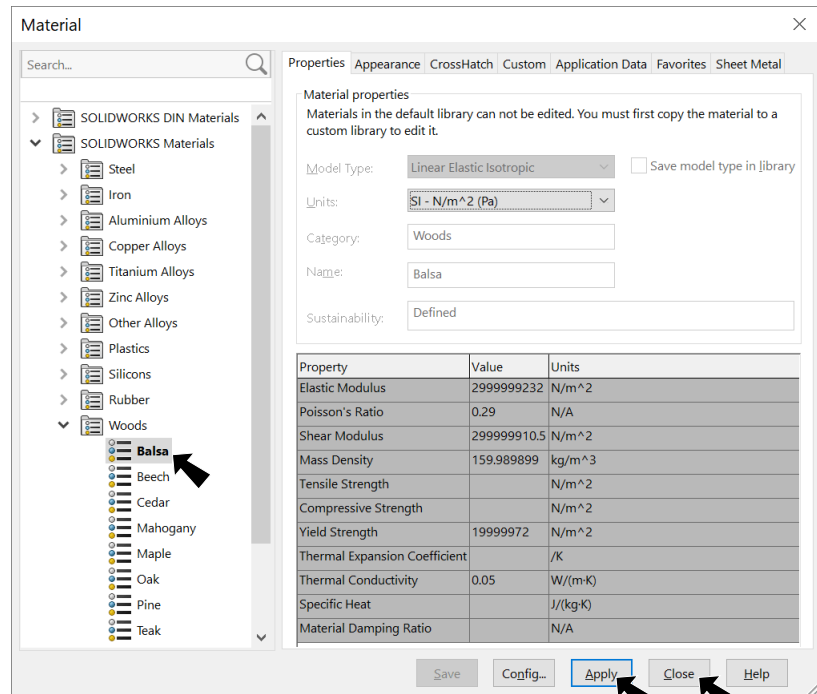

Fig. 29
Step 2. Expand **Woods** (click ▶) in the material tree and select **Balsa**, Fig. 29. Click **Apply** and **Close**.